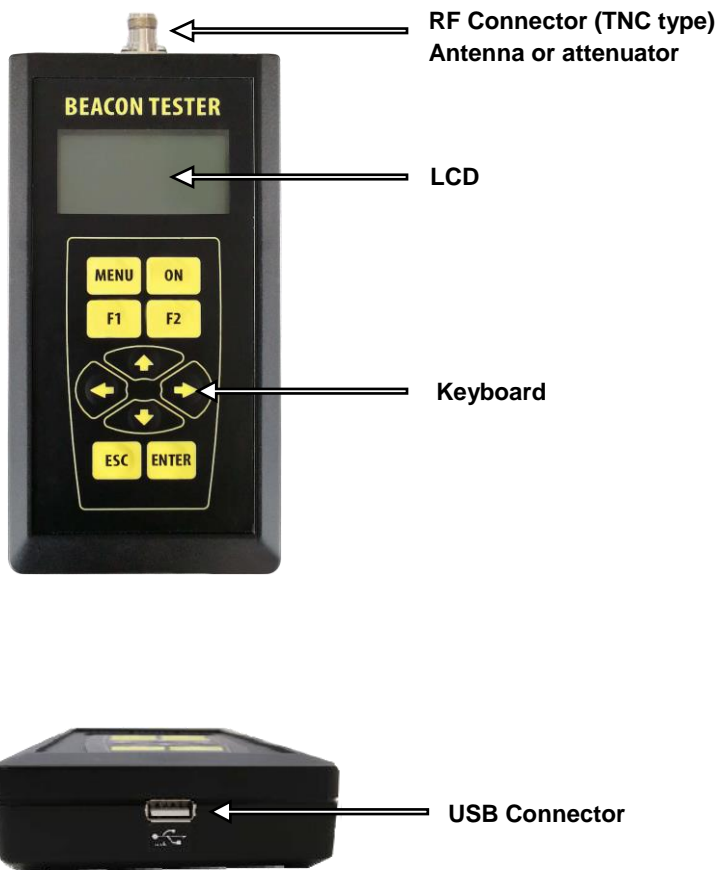

Fig. 4-1. Tester's Control and connection tools
4.1.1 On the front panel of the tester there are a graphic LCD indicator and keypad (Fig. 4-1).
4.1.2 Top right key **ON** is intended for turning on-off the tester. (Fig. 4-1).
4.1.7 On the top side of the tester there is RF-slot for antenna connection. On the bottom panel there is USB-input for PC or USB-adapter connection. (Fig. 4-1).